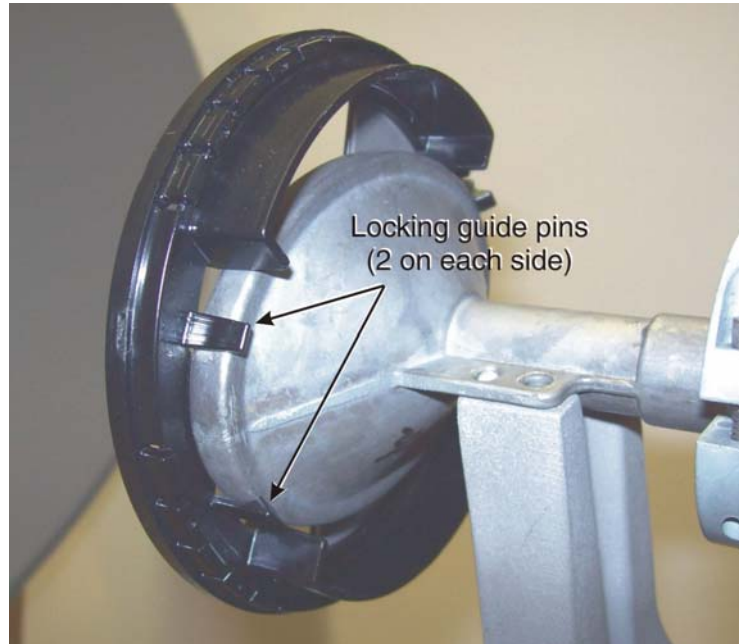

Figure 9: Attaching squinter type A
- a. To attach squinter type A, place the squinter on the elliptical feed horn so that the four guide pins on the rear of the squinter lock securely around the feed horn rim, as shown in Figure 9.